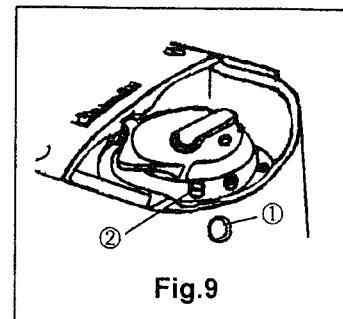

Fig.9
10.How to adjust the lower thread (Fig.9):